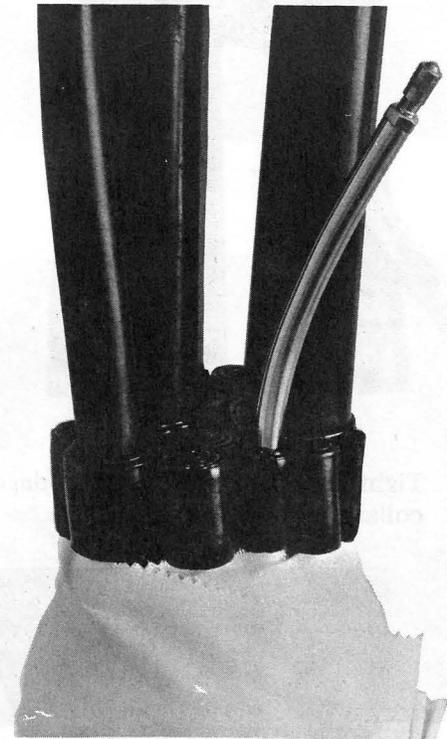

Fig. 15
- (c) Fig. 15 through 21 — added
2. Equip a one-foot length of copper tubing with a valve (core removed). Roll a length of B Sealing Tape around the tube, in line with the tape on the cables as shown in Fig. 15. The tube in the figure is a C Flash Testing Valve; a commercially available item.